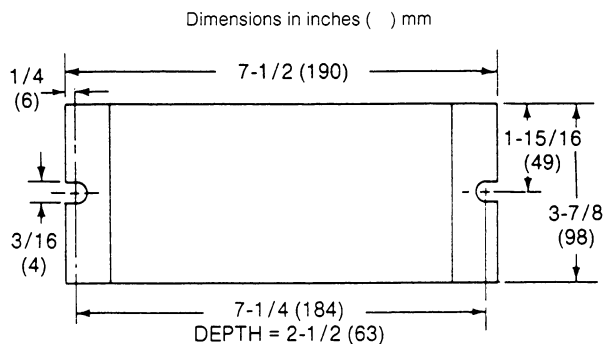

Figure 2. CC-810X Mounting Dimensions
The CC-801X is supplied with a piece of mounting track for panel mounting (see Figure 2 for mounting dimensions). Two (2) #8 mounting screws are required (not provided) for mounting hardware.